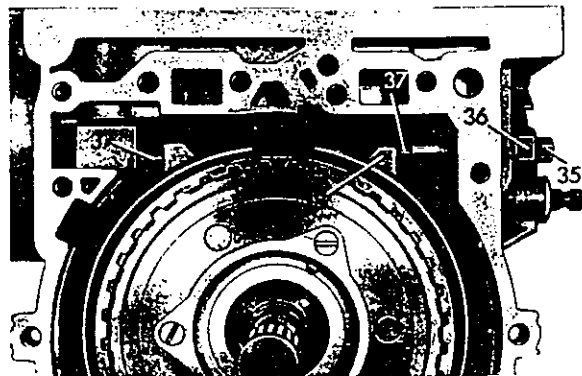

Fig. 16
21 Loosen counternut (36) and remove adjustment screw for brake band B 3 (35). Remove both pressure pins (37) Fig. 16